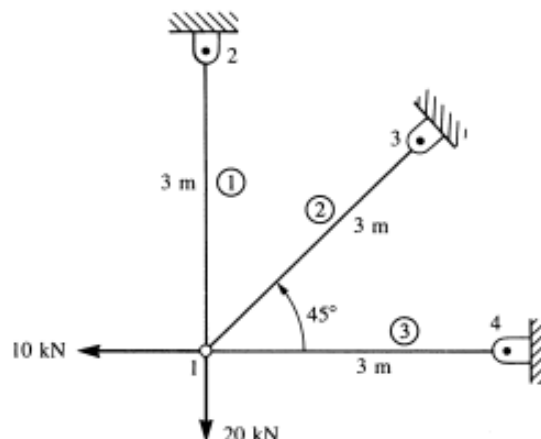

Figure.1
4. a) For the plane trusses shown in the figure.1, determine the horizontal and [14]